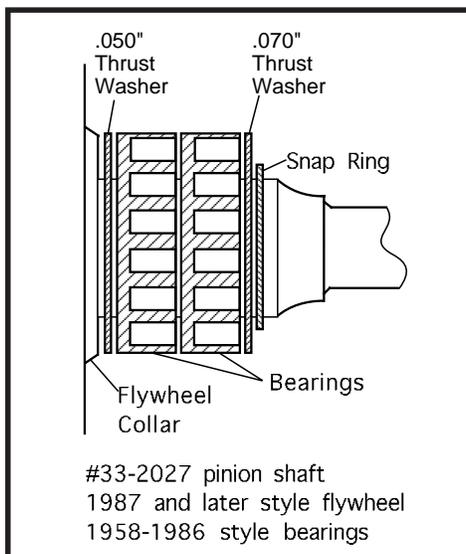

Figure 3
3. 1987 to 1989 stock flywheels or S&S SL or BL flywheels for 1981 and later, and S&S pinion shaft #33-2027 - One .070" thrust washer and one .050" thrust washer are normally used. Typical washer and bearing arrangement - .050" washer against flywheel, bearings, .070" washer, and snap ring. **See Figure 3.**